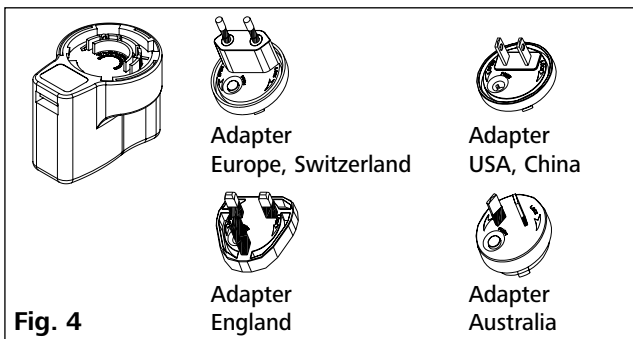

Fig. 4
- **OS 1.0** power supply (for **WiCo**) see Fig. 4